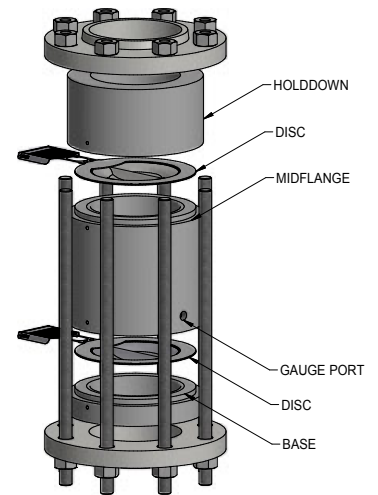
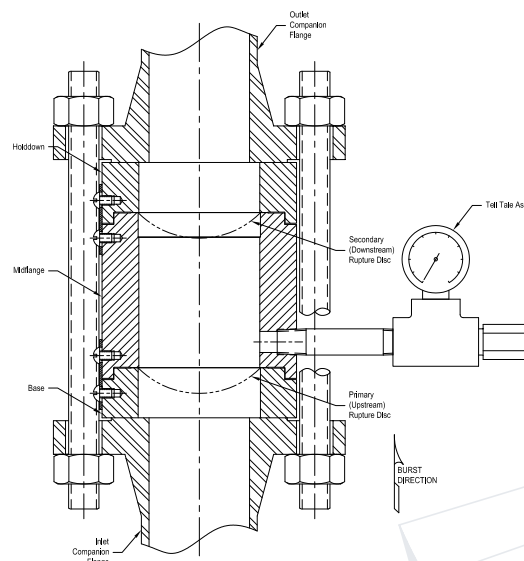

Figure 1: Exploded View of SRL Double Disc Assembly GI
Figure 2: Double Disc GI Installed
The complete Fike double disc (DD) holder assembly consists of two Axius or two SRL rupture discs installed in a specifically designed holder made of three separate components—the base, midflange and holddown (see figure 1). The Fike GI holder configuration allows for ease of installation and maintenance, with preassembly of the unit on a workbench prior to simple insertion between industry standard companion flanges (see figure 2).